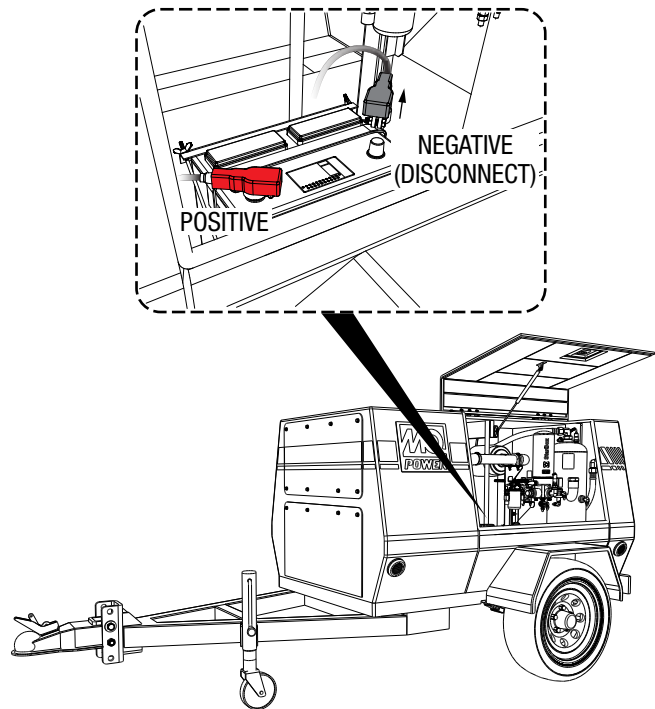

Figure 2. Battery Disconnection
1. Open the battery-side door and disconnect the negative cable (**BLACK**) from the negative terminal on the battery. See Figure 2.